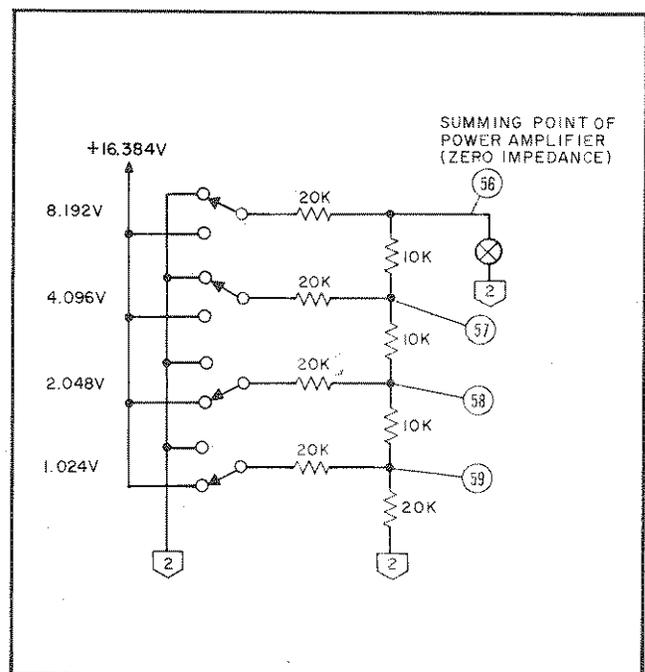

Figure 4-5. Ladder Network, Simplified Schematic
4-79 In the simplified schematic of Figure 4-5, the switching transistors are represented by mechanical switches connecting each of the four rungs in the analog ladder network to either 16.384V or ground (2). Again, the switch positions represent the binary input of 1100, the four most significant bits of the inverted input of 4 volts.
4-82 Potentiometers A3R52 through A3R59 are adjusted to compensate for the conducting resistances of Q2-Q3 and resistance tolerances within the network. With these controls properly adjusted, the total series resistances in each rung are 20K Ω as shown in Figures 4-5 and 4-6. Notice that the output current of each of the four ladder networks are weighted in powers of 16. Thus, resistor A3R92 divides the output current of that rung by 16, resistors A3R93, R94 divide the next rung output current by 256 and resistors A3R95, R96 divide the output current of the remaining rung by 4096.